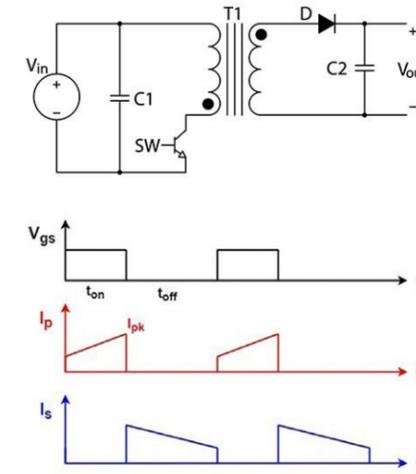

Figure 1: Shown is a simplified schematic of a flyback converter's basic elements (top) and the significant operational waveforms (bottom).
Flyback converters are noted for their simple, minimal component design, for power levels up to 100W. At the heart of these designs is a flyback transformer, which provides both power transfer and isolation between the primary and secondary sides of the converter circuit (Figure 1, top). The converter can step up or down the voltage of a DC power source based on the flyback transformer configuration. In addition to the flyback transformer, the circuit requires a primary-side switch (SW), typically a MOSFET, and a secondary rectifier/filter.
The operating cycle begins when SW is turned on by placing  $V_{gs}$  in a high state (Figure 1, bottom). The switch closes, and the voltage